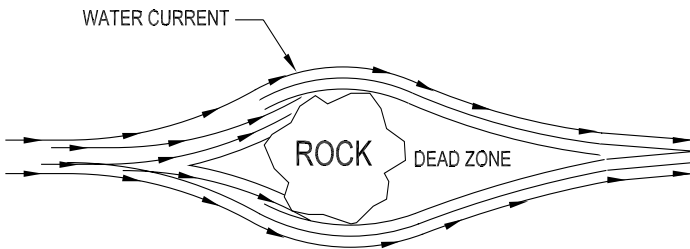

Figure 10
**Zones of Silence:** Large natural or man-made objects can block acoustical transmission under certain conditions, in much the same way that a rock blocks a fast-moving current of water. Close to the backside of the rock, in this example, the current is absent and the water seems still. A short distance away, the current is flowing again (Figure 10).